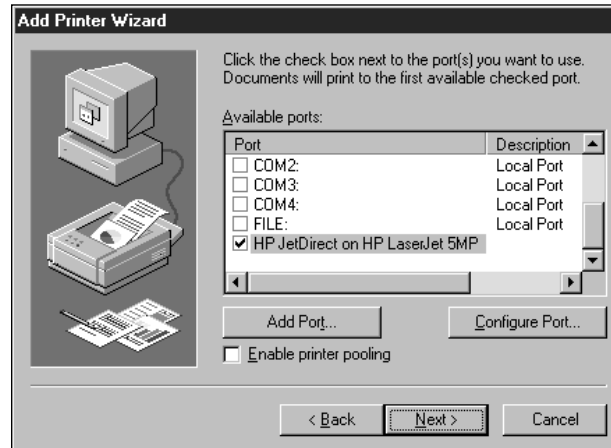

FIGURE 6-11 Hpmon/HP JetDirect port added to available ports list
11. The Add Printer Wizard dialog box, shown in Figure 6-11, reappears. Note that the Hpmon port that you have added is highlighted and selected in the Available ports list box. Click Next.